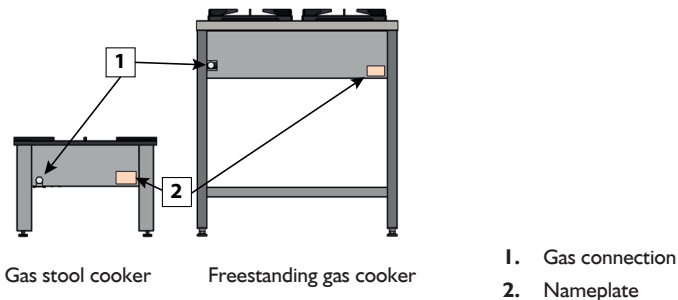
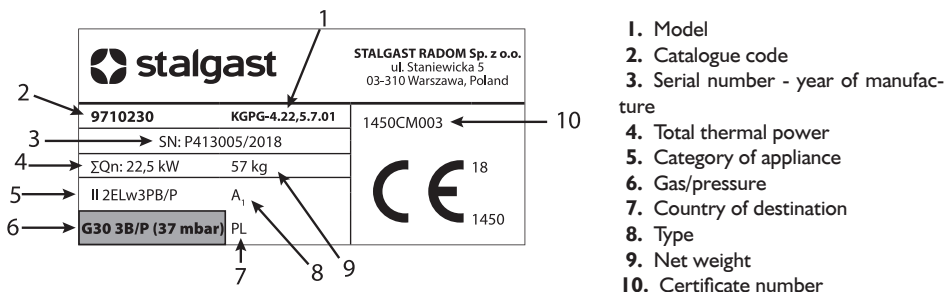

Figure 15. Rear view to the unit.
Figure 17. Example of the nameplate
- Natural-gas stoves (2E; 2H; 2LW; 2L) should be connected to the gas system inside the building as fixed connection or with flexible metal hoses bearing the valid safety mark. The stove has a gas connection with an R 1/2” thread (Fig. 15 item 1).
Example: Convert the stove adapted to combustion of LPG into combustion of natural gas. After the conversion, the sticker **G20 2E (20mbar)** packaged with the nozzles should be put on the name plate (Fig.15 item I, Fig.17)